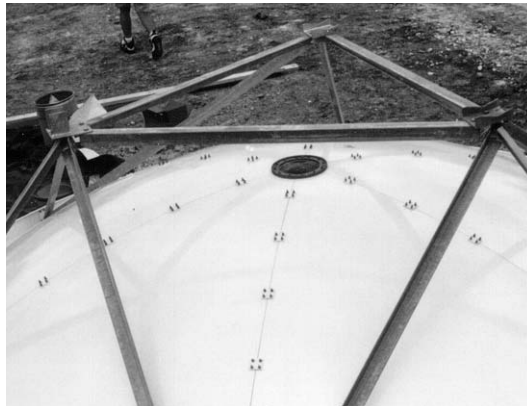

Figure 40
Step 8 Loosely connect pivot brackets and elevation axis bracket with the three support angles (P/N 49437) as pictured in Figure 40.